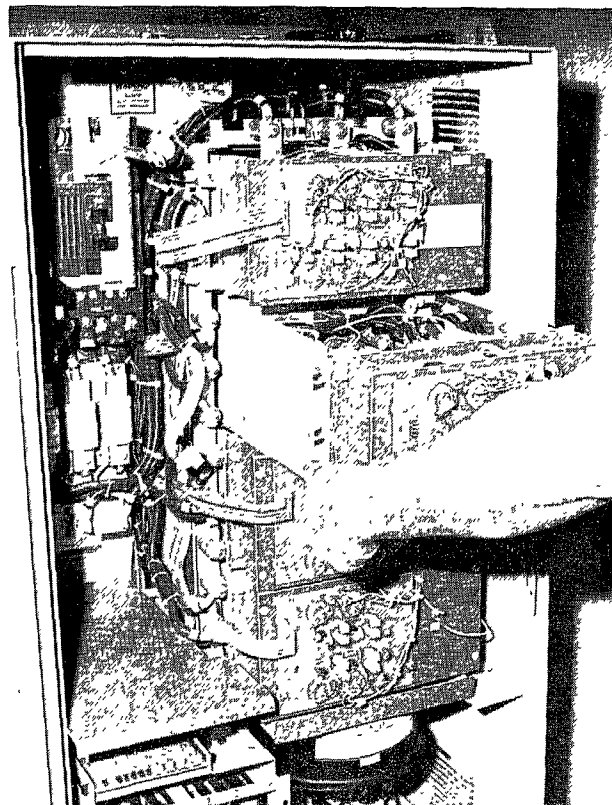

FIGURE 11
5. Remove the five(5) nuts and washers from the power connectors:
6. Carefully pull the module(s) out of the rack using the red plastic insulation cover in front of the module (See Fig. 11).
7. See (1) Press-Pak SCR Replacement — Phase Module or (2) stud mounted SCR Replacement — Phase Module or (3) Press-Pak SCR and stud mounted SCR Replacement — Phase Module (pages 48, 50 and 51, respectively).